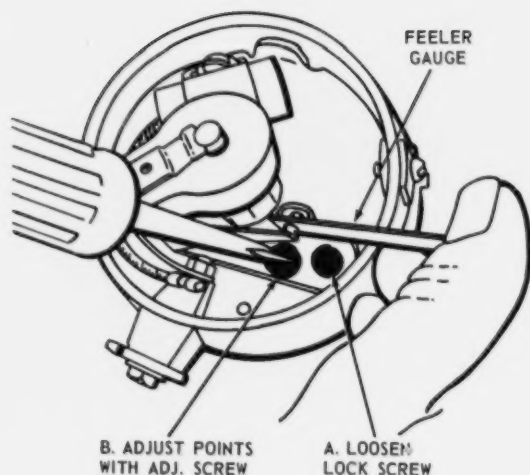

Fig. 63—Adjusting Breaker Point Gap
4. Loosen lock screw on the stationary point bracket (Fig. 63).
5. Adjust the points for proper spacing. An adjusting screw (Fig. 63) or screwdriver slot provides the means of adjustment.
6. Lock breaker points into position with the lock screw (Fig. 63).